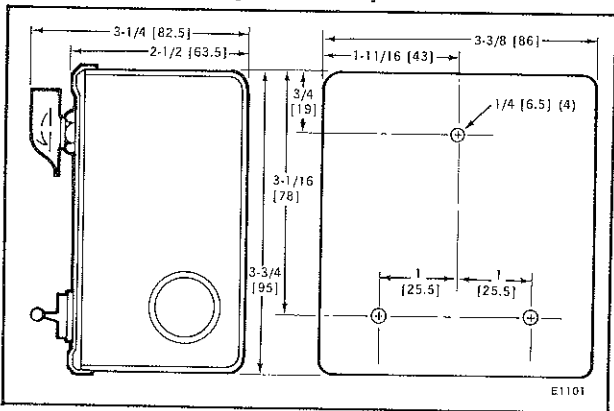

FIG. 1—MOUNTING DIMENSIONS OF S443A IN in. [mm IN BRACKETS].
**DIMENSIONS:** See Figs. 1 and 2.
2. Remove two screws holding cover onto case and mount case on the wall using the three mounting screws provided. Refer to Fig. 1 for location of mounting holes.